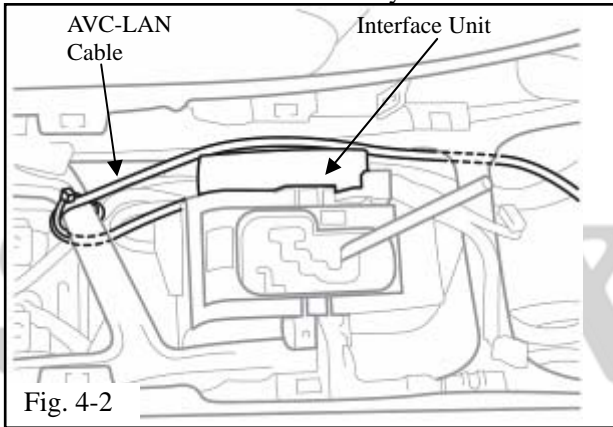

Fig. 4-2
- (d) Route the AVC-LAN cable under, then back up and over the vehicle bar in the center console as shown. (Fig. 4-2)
- (1) Secure the cable with a 6" lock tie. (Fig. 4-2)
- (e) Continue to route the AVC-LAN cable toward the audio head unit, passing it to the driver's side of the interface unit, and continuing under the front vehicle bar in the center console. (Fig. 4-2)